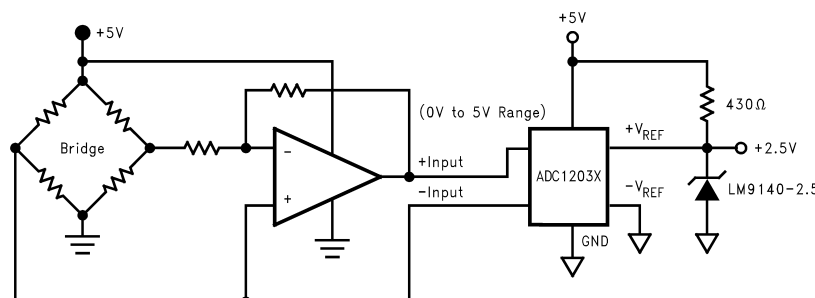

Figure 9.
The LMP2012 is a great choice for an amplifier stage immediately before the input of an ADC (Analog-to-Digital Converter), whether AC or DC coupled. See Figure 8 and Figure 9. This is because of the following important characteristics:
- D)** Rail-to-Rail output swing maximizes the ADC dynamic range in 5-Volt single-supply converter applications. Below are some typical block diagrams showing the LMP2012 used as an ADC amplifier (Figure 8 and Figure 9).